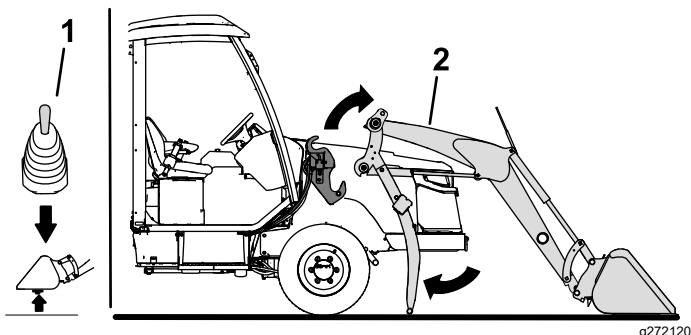

Figure 48
4. Use the loader joystick to raise the loader arms out of the loader-frame mounts (Figure 48).